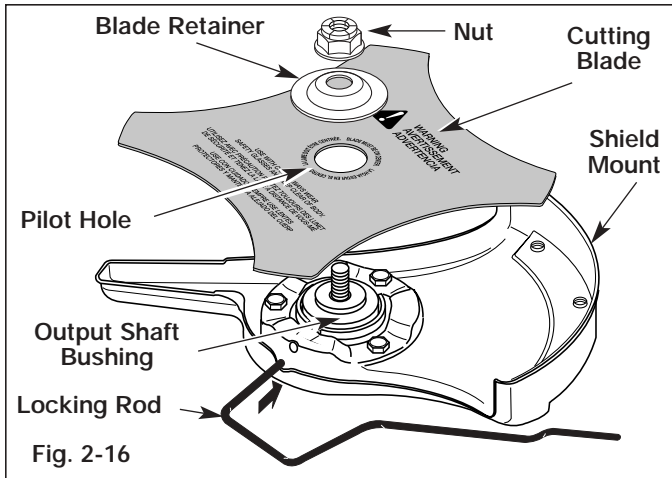

Fig. 2-16
- Place the cutting blade on the output shaft bushing (Fig. 2-16).